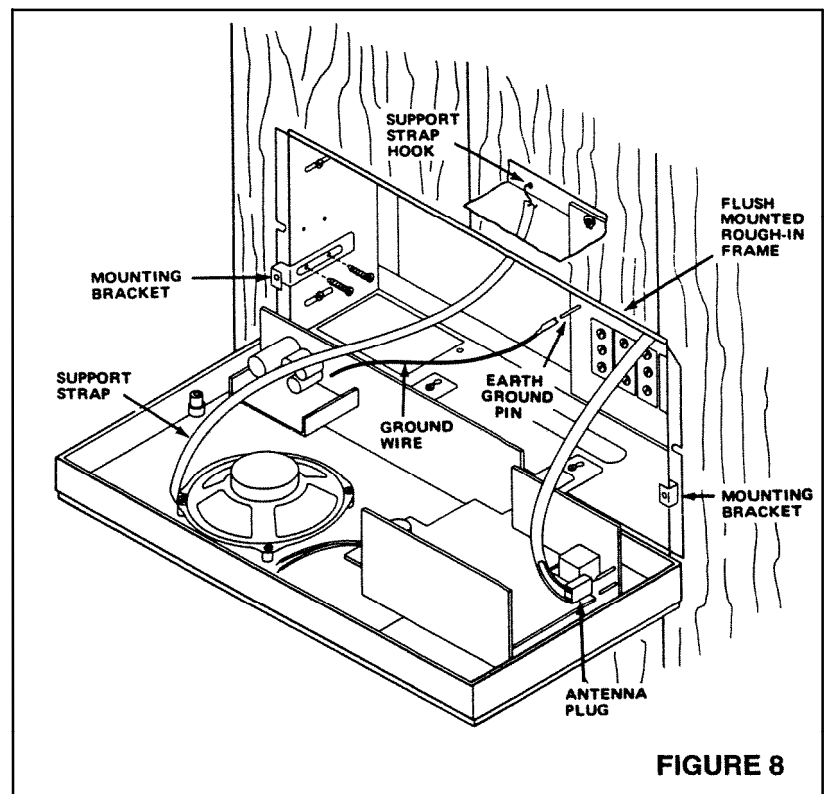

FIGURE 8
5. Refer to Figure 8. Attach support strap to rough-in by placing hook into hole in rear flange of rough-in frame.